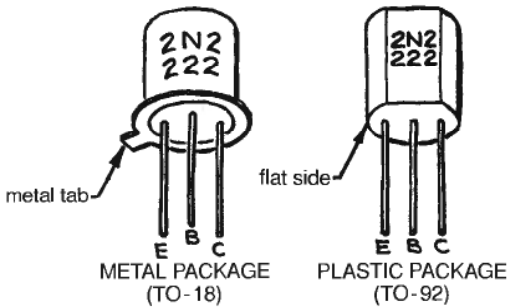

Figure 3.22
- Q5, 2N2222 transistor [+]. See Figures 3.22 and 3.12. Either the metal tab is at 4 o'clock or the flat side faces the top of the board.